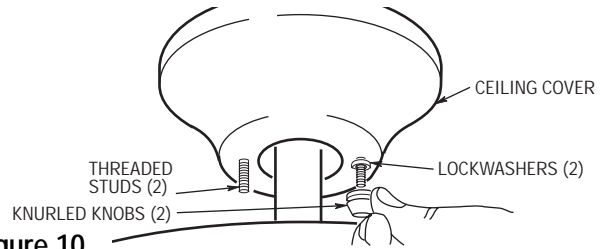

Figure 10
- 4. Lift the ceiling cover up to the threaded studs and turn until studs protrude through the holes in the ceiling cover (Figure 10).
- 5. Secure the ceiling cover in place by sliding lockwashers in place by sliding lockwashers over the threaded studs and installing the two knurled knobs (supplied). (Figure 10). Tighten the knurled knobs securely until the ceiling cover fits snugly against the ceiling and the hole in the ceiling cover is clear of the downrod. Your fan is now wired to be turned on and off from the fan switch.